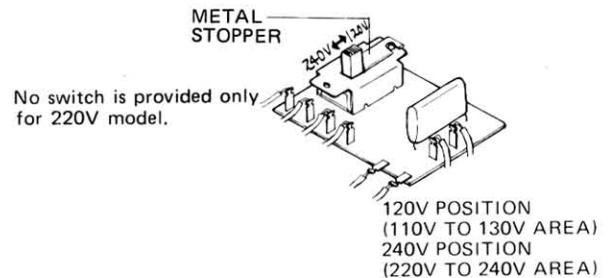

Fig. 20
2. Lift the base plate, now you can see the **LINE VOLTAGE SELECTOR SWITCH** and the metal stopper. Remove the screw, to free the metal stopper. Set the switch to your local line voltage, hold the switch in position with the metal stopper, and tighten the screw (Fig. 20).